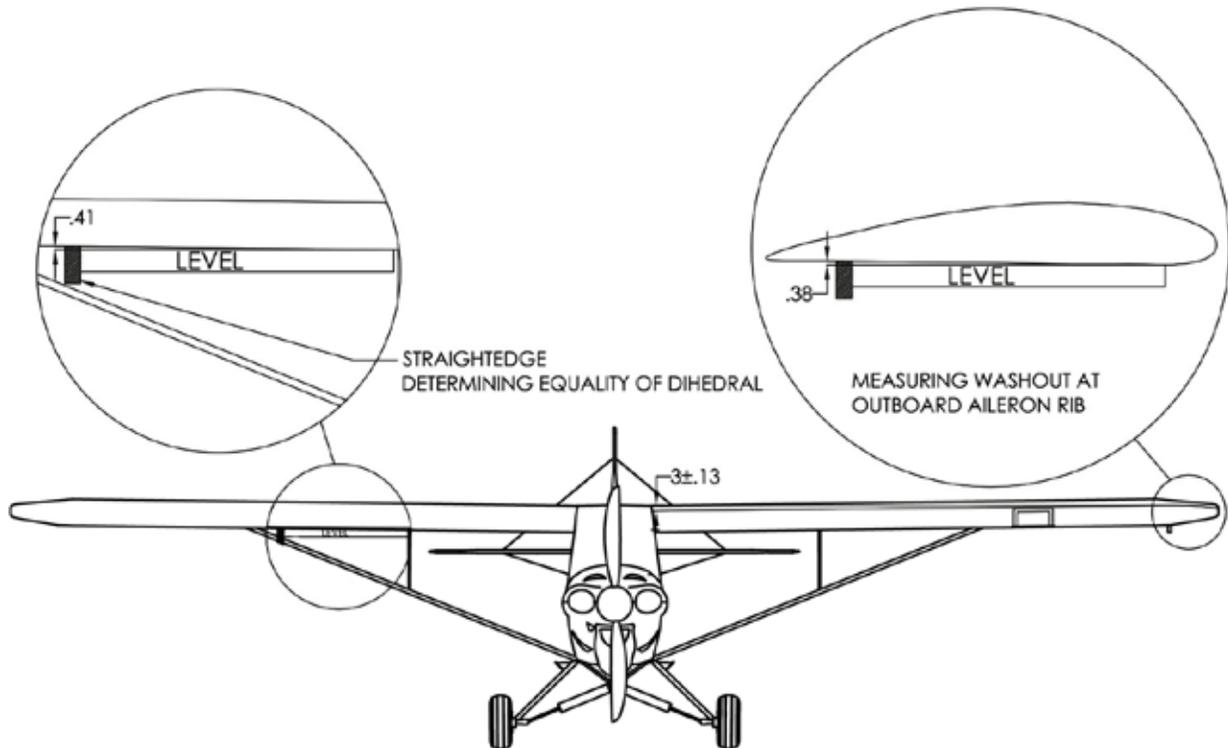

Figure 4 – Dihedral Angle and Washout
- (c) Measure down from the string to the top of the inboard edge of the front spar cap (Figure 4). The measurement should be 3 inches \pm 0.13 (1/8) inches. This adjustment is accomplished by turning the forks of the lower end of the front strut in or out.
- (d) To determine that each wing panel has the same dihedral, hold a straightedge on the end of a 30-inch level so that one end of the straightedge protrudes 0.41 (13/32) of an inch above the level (see Figure 4). Place the level combination along the front spar bottom between the lift strut and jury strut attachment fittings as illustrated in Figure 4. The bubble should be approximately centered. Check the opposite wing panel in the same manner.
- (a) Check the washout of each wing by holding a straightedge on the end of a 30-inch level so that one end of the straightedge protrudes 0.38 (3/8) inches above the level (see Figure 4). Place this combination along the bottom surface of the full rib next to the outboard end of the aileron. The level end with straightedge space should fit to the rear of the rib while the other end of the level should be placed under the front spar.